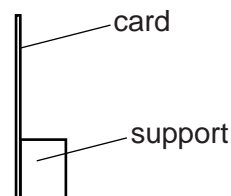

Fig. 3.3
- (iv) Screen. A white sheet of stiff card approximately 15 cm × 15 cm, fixed to a wooden support, is suitable. See Fig. 3.3.